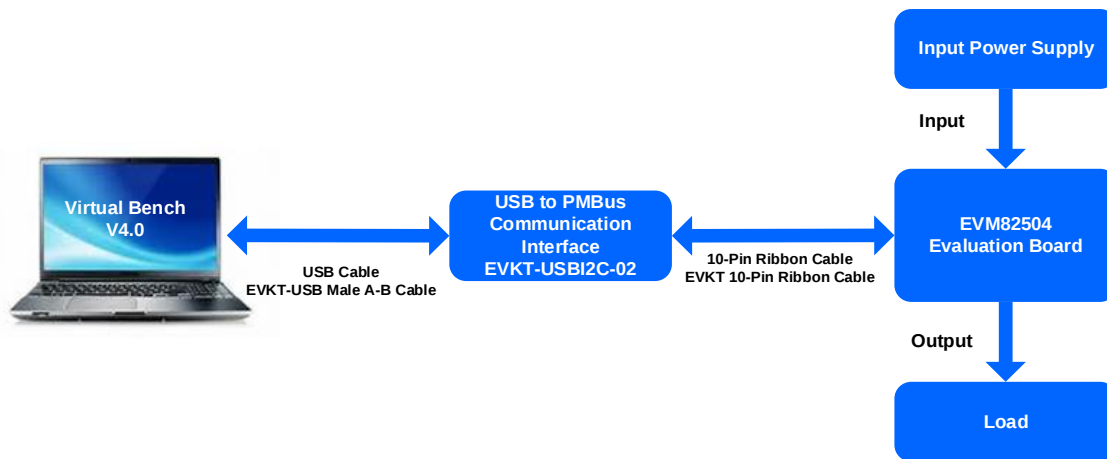

Figure 4: Configuration to Use the MPM82504 GUI
3. Click “Virtual Bench Pro.exe”, then add the device (see Figure 4).